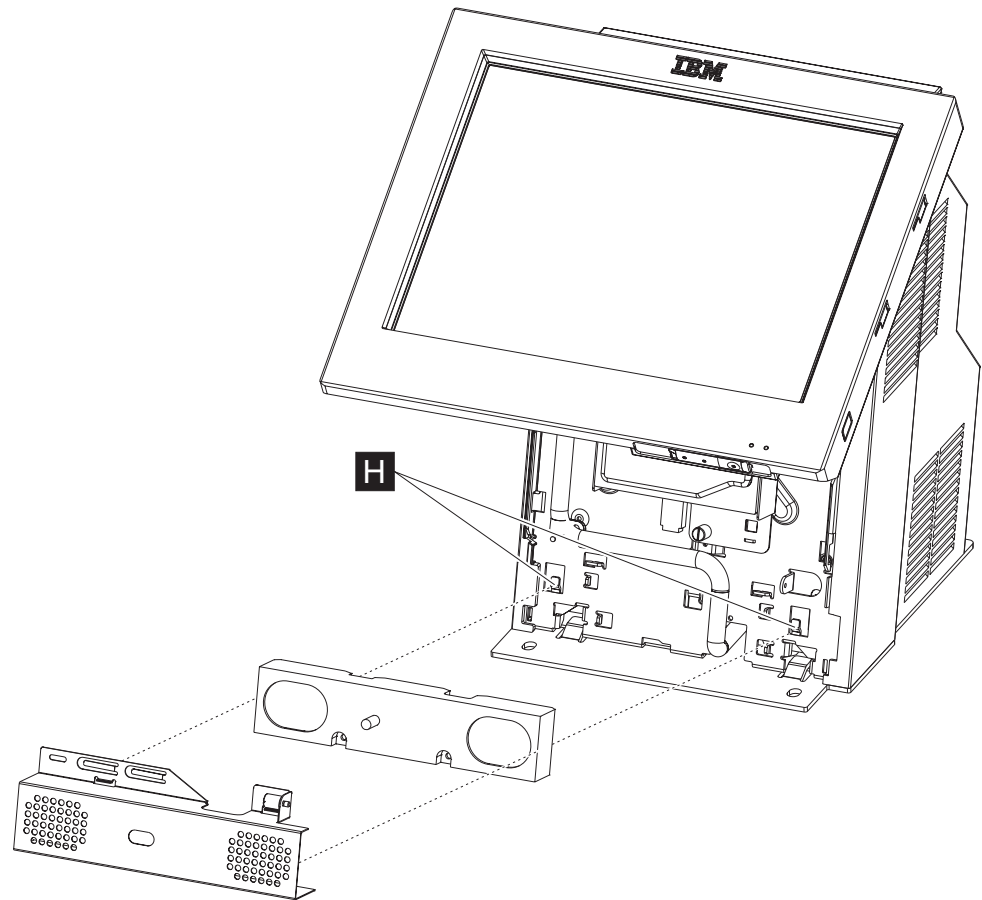

Figure 38. Removing the speaker and speaker EMC shield
4. Slide the speaker shield to the left and lift it off of the hooks (**H** in Figure 38) to remove.